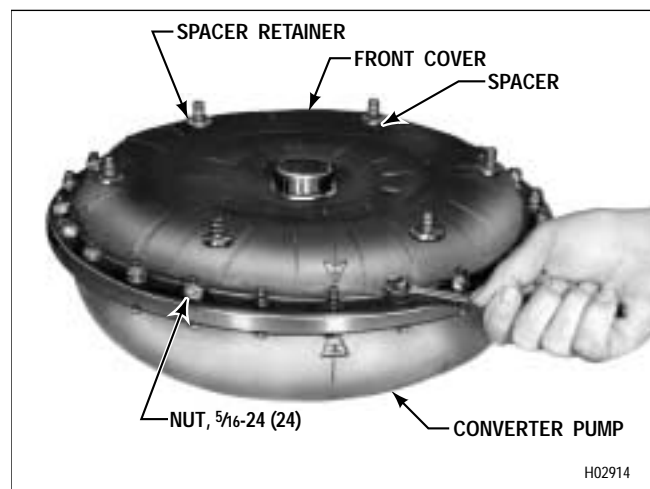

Figure 6-3. Removing (or Installing) Torque Converter Cover Nuts (AT 543)
(1) Remove six retainers 3 and spacers 4 from cover 5.
(2) Remove the twenty-four nuts that retain the converter front cover (Figure 6-3).
(16) Install twenty-four nuts to retain the converter cover (Figure 6-3). Tighten four of the nuts, at 90 degree intervals, to 10 lb ft (14 N-m). Then, tighten all the nuts to 19-23 lb ft (26-31 N-m).
(17) Install a spacer and a spacer retainer (earlier models) onto each of the six drive studs on the converter cover (Figure 6-3). Recheck end play as outlined in Paragraph 6-3b. If end play does not exceed 0.025 inch (0.64 mm), repair is complete. If end play exceeds this limit, perform the steps in Paragraph 6-4b (1) through (4) and then proceed to Paragraph 6-4d(18).